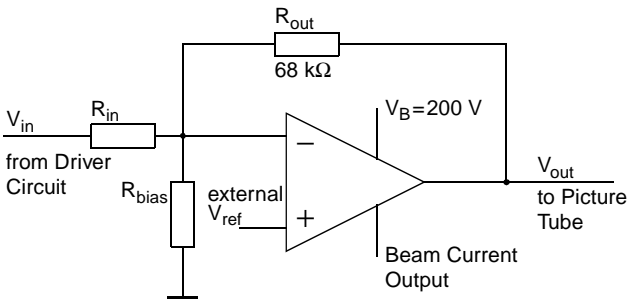

Fig. 3–1: Typical output amplifier (one stage)
1. Find out the recommended cutoff voltage (picture tube specification). See Fig. 3–2.
2. Find out the video drive voltage from spot cutoff (picture tube specification). See Fig. 3–3.